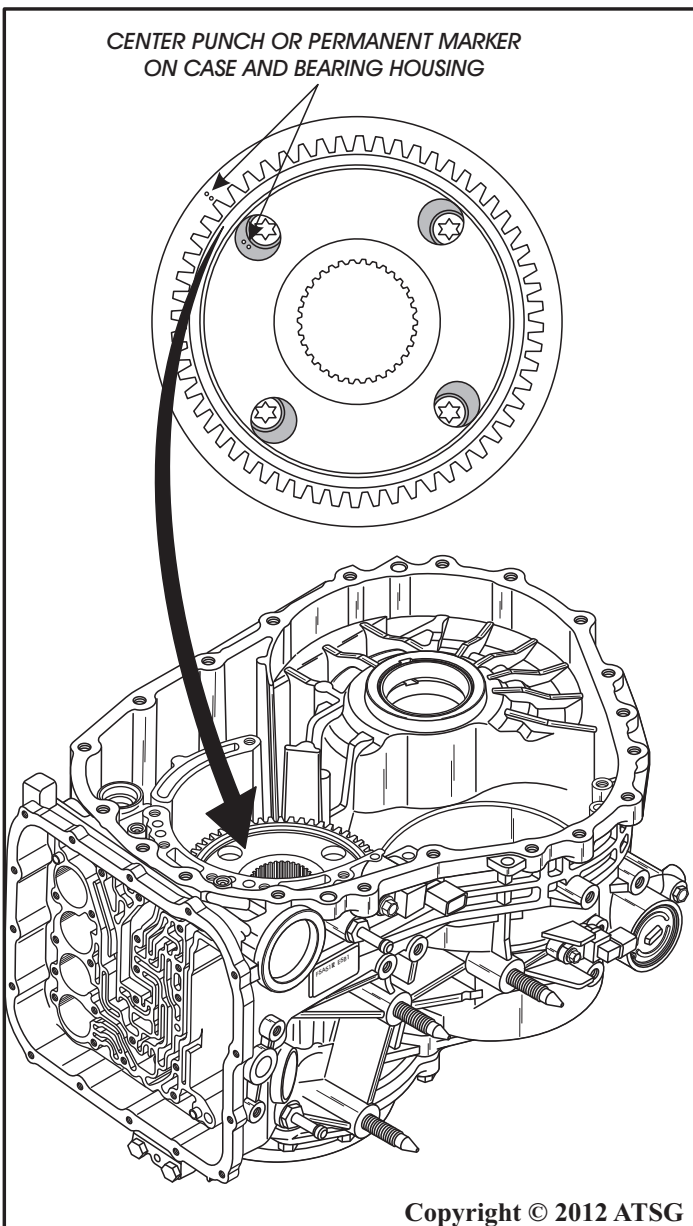

Figure 93
85. Remove the transfer drive gear by accessing the retaining bolts through the access holes provided in gear, as shown in Figure 93.
Note: Reference marks must be placed on case and bearing housing (See Figure 93), as the housing bolts in case in 1 direction only. If bearing service is not necessary, the transfer drive gear does not need to be removed.